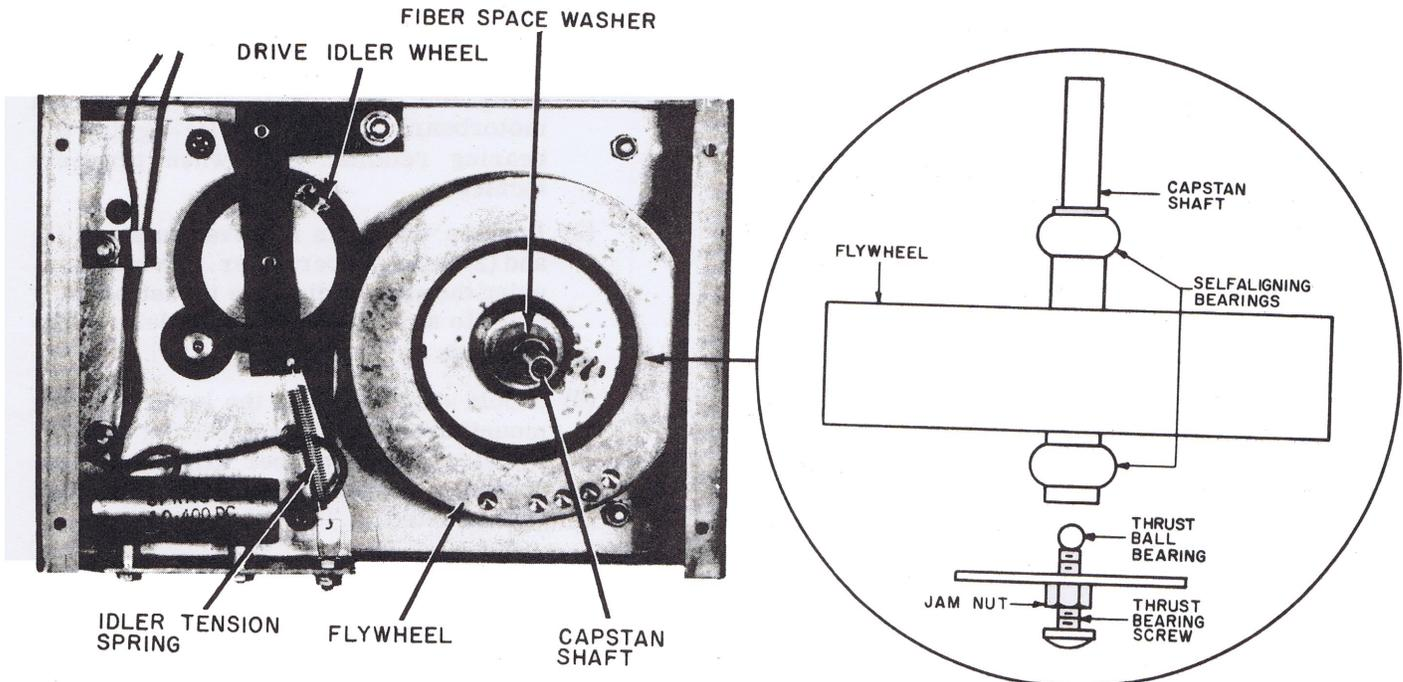

Figure 4. Top of Motor Frame.
2.07 When reassembling, assure that all parts are replaced in proper order. Give special attention replacing flywheel thrust bearing and fiber spacer washer (refer to figure 4), motor connections, and motor terminal block shield. During assembly, clean the capstan shaft and pressure roller drive surfaces of any oil accum-
5.05 Drive system alignment is accomplished as follows (refer to figures 4 and 5):